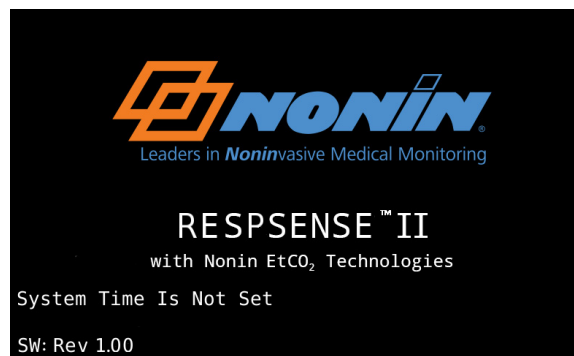

Figure 5. Start-up Screen
4. The Nonin logo start-up screen (figure 5) displays with the monitor name. The lower left corner of the screen shows the monitor’s software revision.